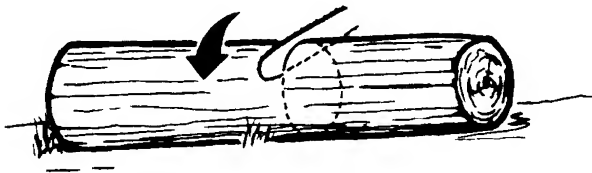

Fig. 13
1. Log supported along entire length: Cut from top (overbuck), being careful to avoid cutting into the ground (Fig. 13).